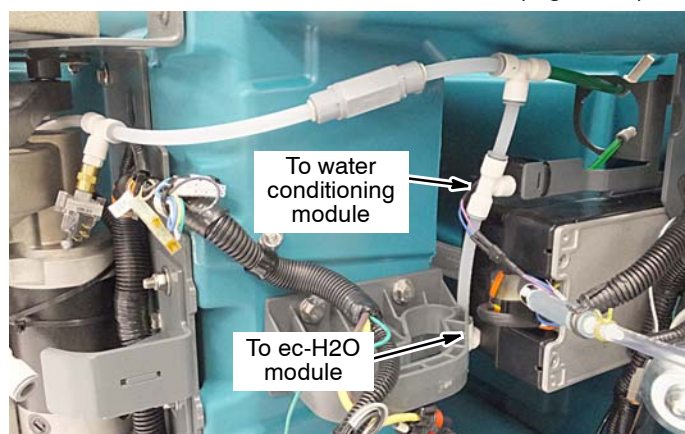

Fig. 23
11. Connect the hose assembly to the water conditioning module and ec-H2O module as shown (Figure 23).